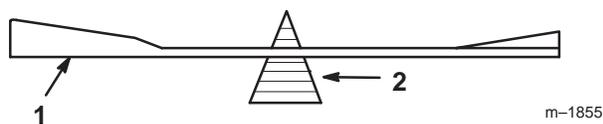

Figure 27
- Check the balance of the blade by putting it on a blade balancer (Fig. 27). If the blade stays in a horizontal position, the blade is balanced and can be used. If the blade is not balanced, file some metal off of the end of the sail area only (Fig. 25). Repeat this procedure until the blade is balanced.